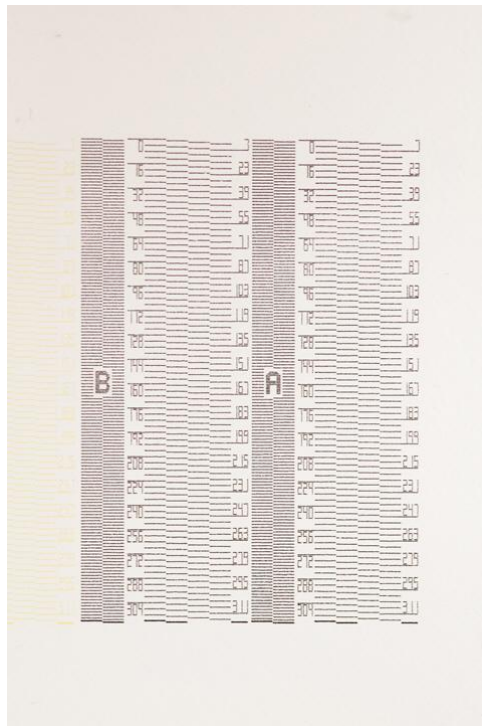

Figure 4: Good nozzle test print
- Carefully evaluate the nozzle test print, shown in Figure 4, for indications of nozzle dropout.